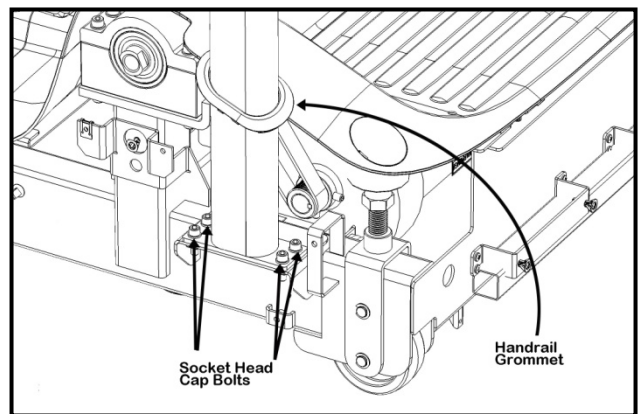

Fig. 8
8. Mount the left & right lower handrail sections to the TreadClimber® base and loosely thread four socket head cap bolts to each handrail mount (Fig. 8) along with sliding on the corresponding left & right handrail grommets into place.